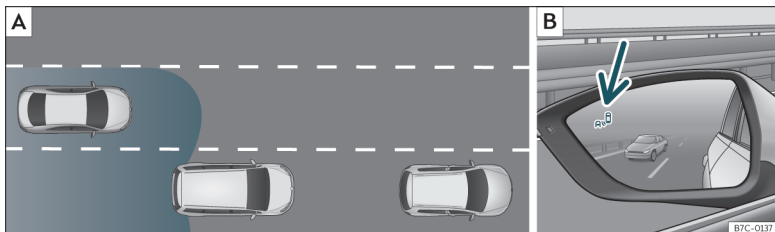

Fig. 222 Schematic diagram: **[A]** Passing situation with traffic behind the vehicle. **[B]** Indication from the blind spot detector in the left-hand external mirror.
The radar sensors are located on the left and right of the bumper and are not visible from the outside »» Fig. 221. The sensors monitor both the blind spot and traffic behind the vehicle »» Fig. 222, »» Fig. 223. The range to the sides of the vehicle is a bit larger than the width of a lane.
>>> **Fig. 222 [B]** (arrow) or >>> **Fig. 223 [B]** (arrow):
- When being overtaken by another vehicle >>> **Fig. 222 [A]**.